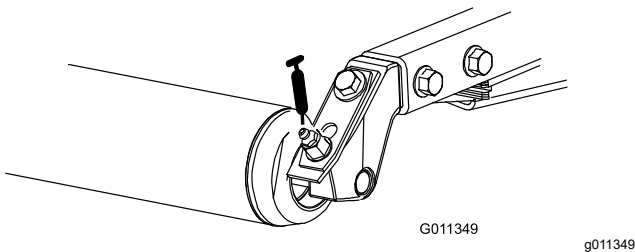

Figure 50
- Rear roller bearings (2 per cutting unit) (Figure 50)